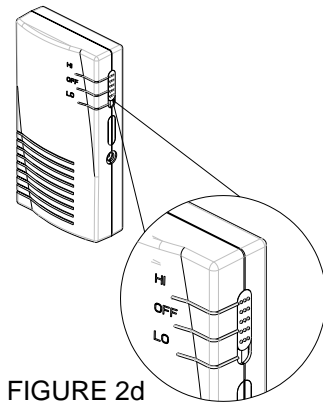

FIGURE 2d
- Step 1: Set the 3-position slide switch to "HI". (FIGURE 2d)